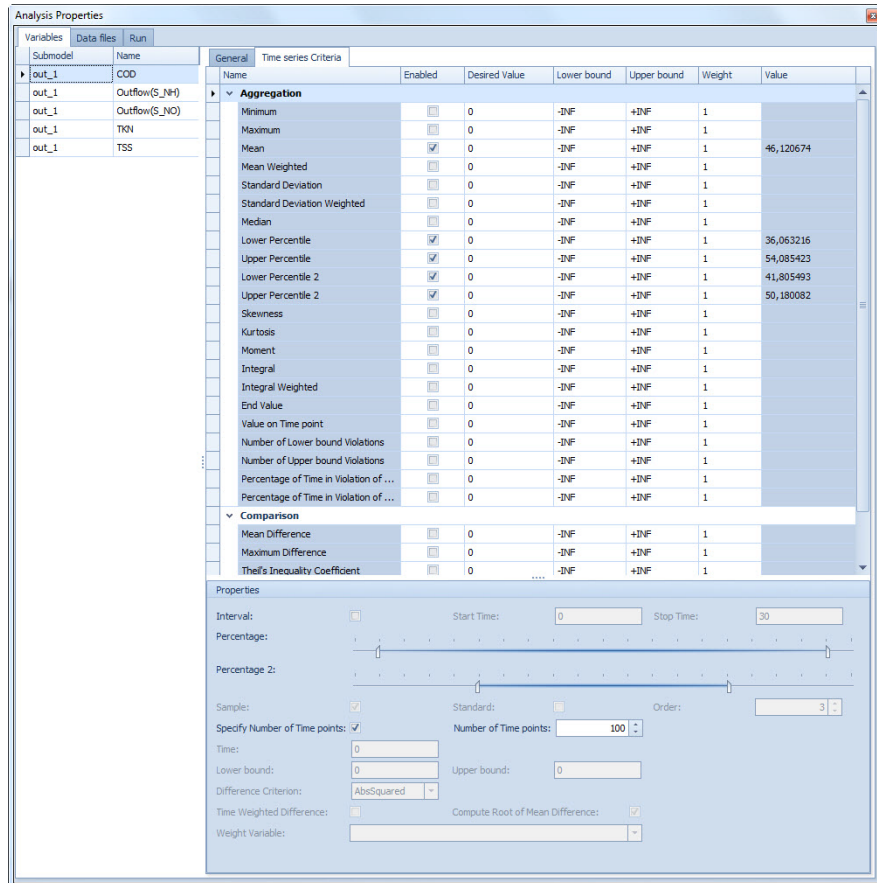

Figure 4.3 The Time series Criteria tab page of the Analysis Properties dialogue (Dynamic Simulation experiment)
– **Time series Criteria** (Figure 4.3)